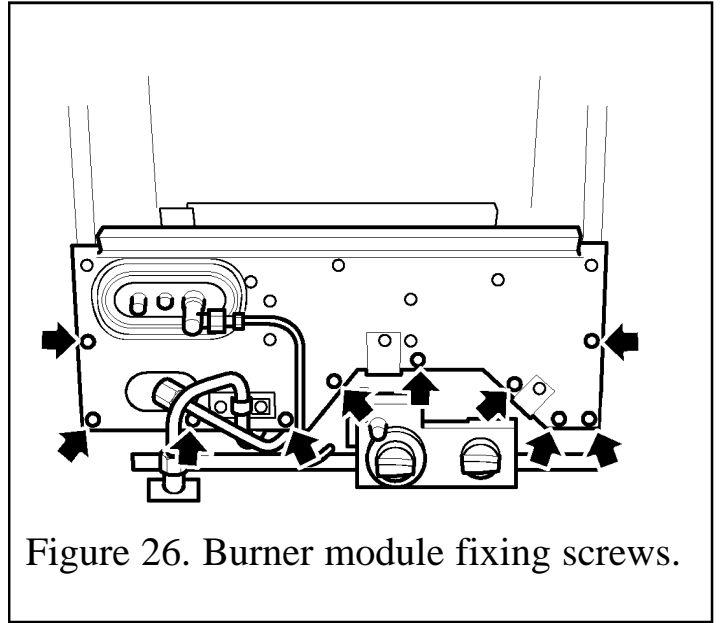

Figure 26. Burner module fixing screws.
- Detach the burner front cover by unscrewing the 10 screws at the front of the burner module shown in figure 26.